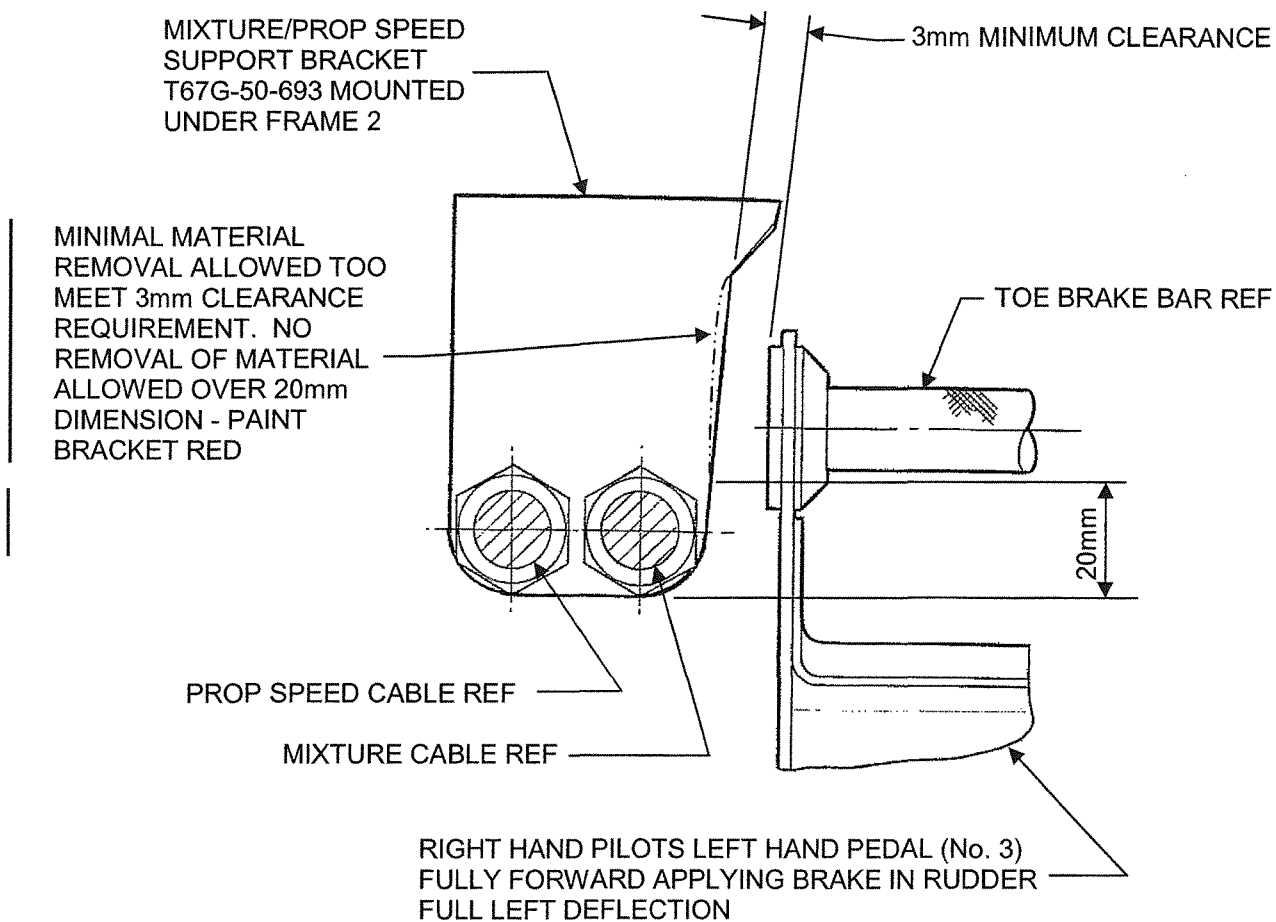

FIGURE 1
1. With Right Hand pilots left pedal (Pedal No. 3) adjusted fully forward, with left rudder applied, apply brake together with a left hand side force on the pedal. Check for clearance on mixture/propeller speed cable support bracket. Refer Figure 1.
2. Clearance should be a minimum of 3mm. Figure 1 refers.